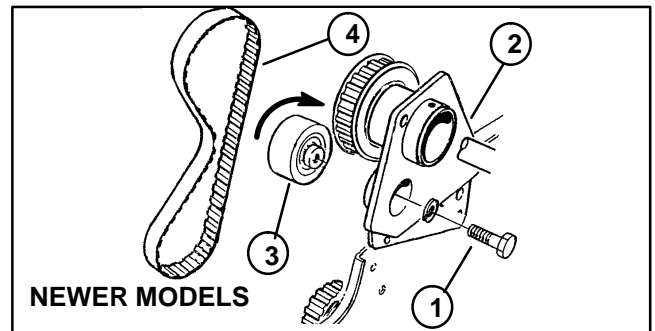

Figure 21
B. Loosen cap screw on clutch housing. Pivot idler pulley counterclockwise (arrow direction) to loosen reel drive belt. Remove reel drive belt (Fig. 21).